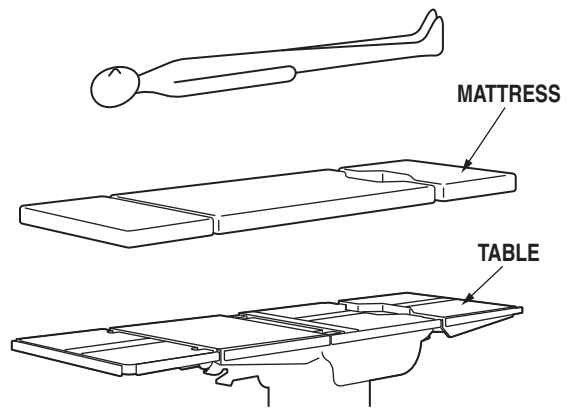

Figure 2-24. Patient Positioning
3. Set up the patient's position in accordance with the purpose of the operation. (Figure 2-24)